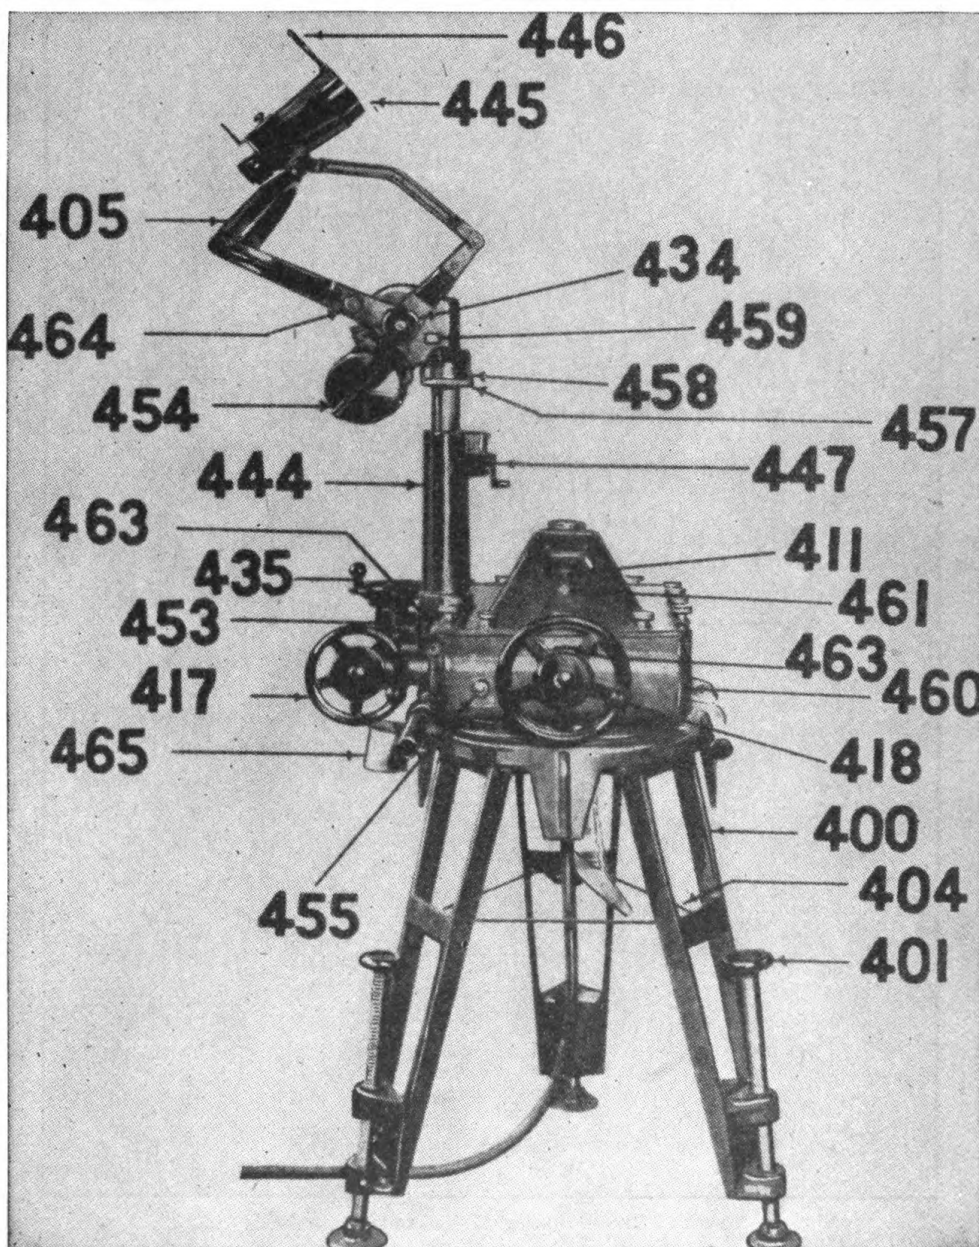

FIGURE 130.—General Electric M1940 control station (right side view).
**83. General Electric control station.—Q.** Name and give the functions of the various parts of the M1940 General Electric control station. **A.** Refer to figures 130 and 131.
401. Leveling jack.....	See figure 130.
417. Observer's elevation handwheel....	See figure 130.
418. Elevation zero reader's handwheel....	See figure 130.
434. Binocular linkage clamp.....	See figure 130.
435. Observer's azimuth handwheel.....	See figure 130.
446. Open sight.....	See figure 130.
453. Binocular column lock clamp.....	See figure 130.
454. Binocular positioning handles.....	See figure 130.
463. Level.....	See figure 130.